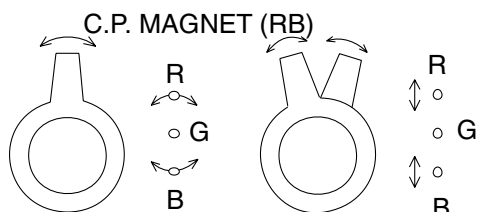

Fig. 7
2. Loosen the Ring Lock and align red with blue dots or Crosshatch at the center of the screen by rotating (RB) C.P. Magnets. (See Fig. 7.)